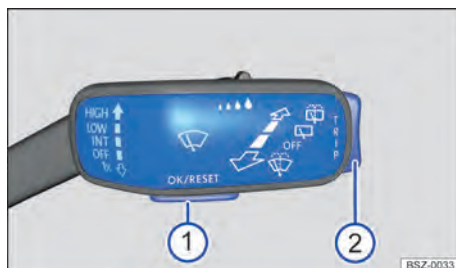

Fig. 14 On the right of the steering column: buttons on the wiper lever (illustration).
any menus. Some warnings can be confirmed and hidden with the **OK/RESET** button → Fig. 14 ①.
2. Press the **OK/RESET** → Fig. 14 ① button, several times if required, if a message or the vehicle pictogram is displayed.
3. Hold down the rocker switch TRIP → Fig. 14 ② to display the menus → page 29 or to return to the menu selection from a menu or an information display.
4. To browse through the menus, press the rocker switch TRIP → Fig. 14 ② up or down.
5. To open the menu or information display shown, press the **OK/RESET** button → Fig. 14 ① or wait until the menu or information display opens automatically after a few seconds.
1. In the displayed menu, press the rocker switch TRIP → Fig. 14 ② at the top or bottom until the desired menu option is marked.
2. Press the **OK/RESET** button → Fig. 14 ① to make the required changes.